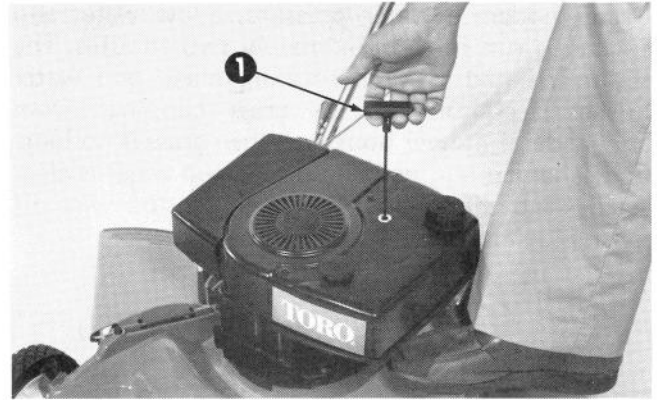

Figure 14
- Place foot on step at left side of mower housing and keep other foot from beneath the housing. Pull fingertip starter up until positive engagement results (Fig. 14); then pull vigorously to start the engine.